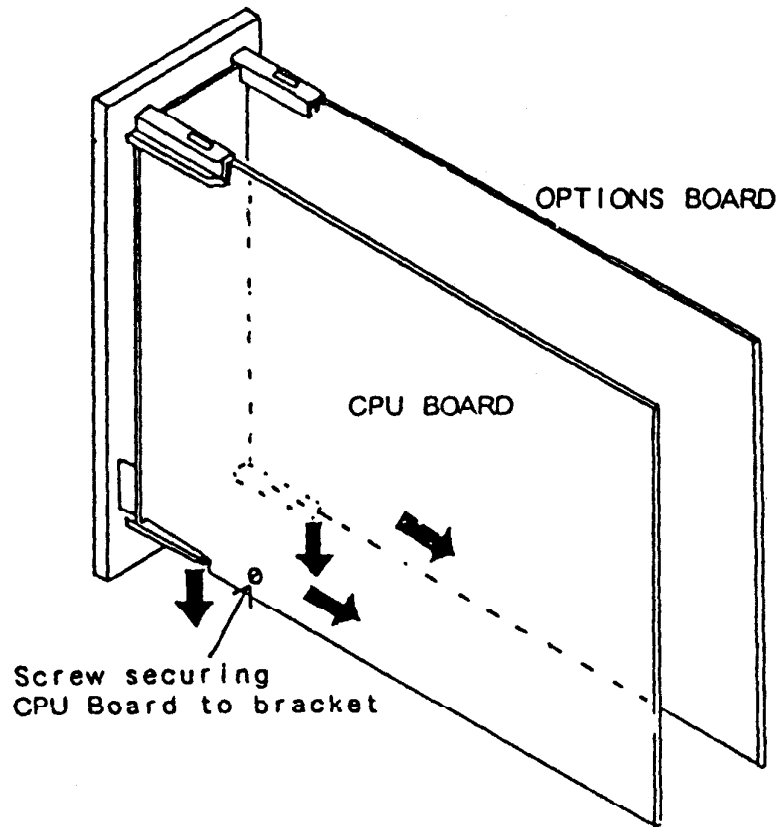

FIGURE 5-1 - DETACHING THE PCBs FROM THE FRONT PANEL
2) Grasp the plastic guides projecting rearwards from the bottom of the front panel (See Figure 5-1), and pull them downwards until the bottoms of the PCBs can be disengaged from the guides and withdrawn backwards. Next grasp the plastic guides at the top of the front panel and disengage the tops of the PCBs. The two PCBs can now be detached from the front panel assembly.